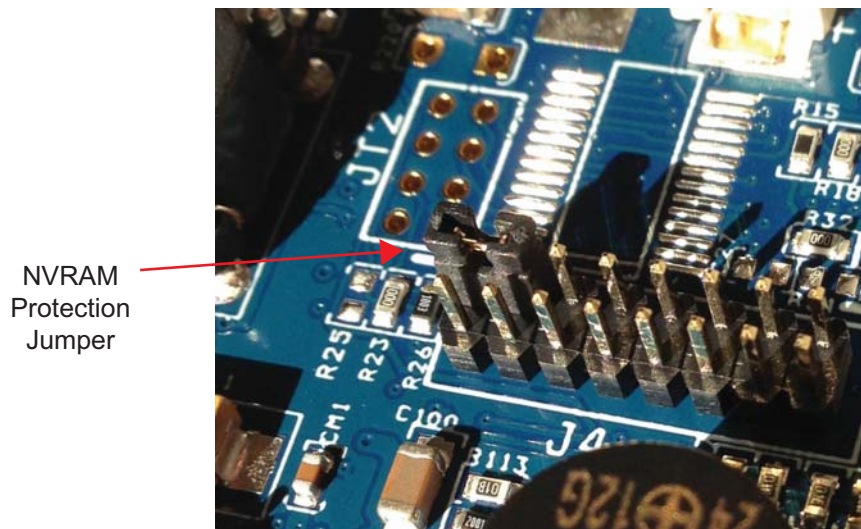

Figure 4-18. NVRAM Protection Jumper
STEP 4: Locate J4 jumper block on board removed in the previous step. Refer to **Figure 4-18** for location.
STEP 5: Insert jumper between pins 13 and 15 on J4 jumper block. Refer to **Figure 4-18**.